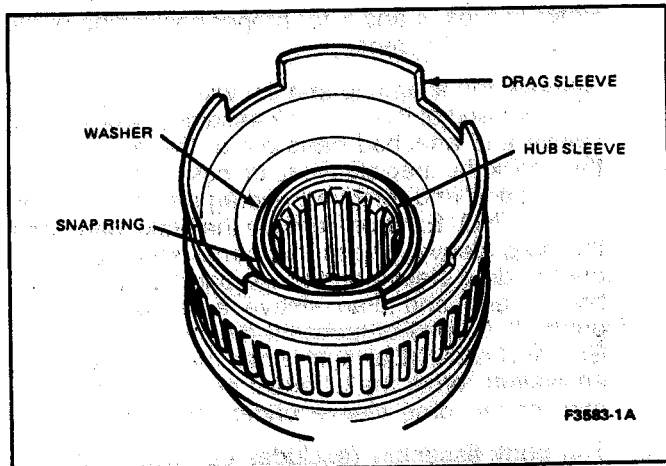
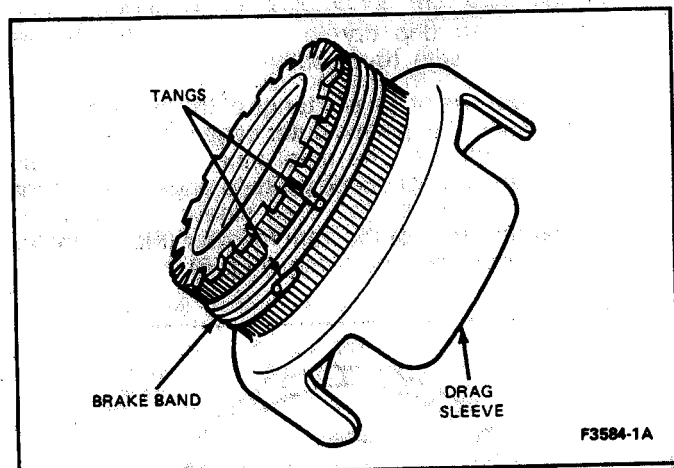
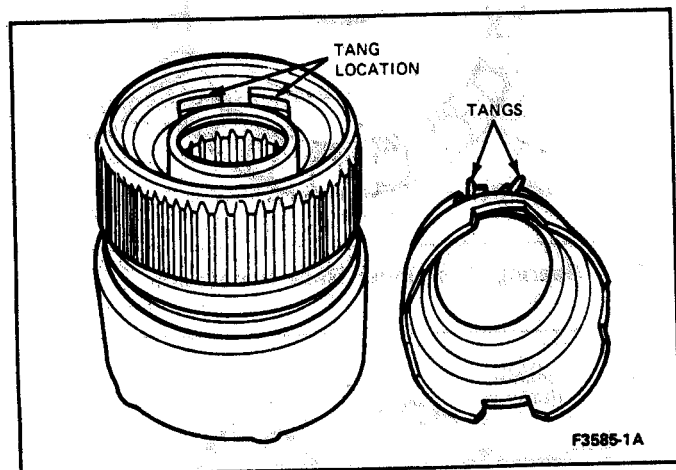

FIG. 6 Washer and Snap Ring
FIG. 7 Drag Sleeve and Brake Band
FIG. 8 Brake Band and Drag Sleeve Assembly to Body Assembly Installation
11. Remove the snap ring and flat washer (Fig. 6) from the inner end of the hub lock assembly. Pull the hub sleeve and attached parts out of the drag sleeve, then cock the drag sleeve to unlock the tangs of the brake band and remove the drag sleeve assembly (Fig. 7). (NOTE: Never remove the brake band from the drag sleeve). Wash in cleaner solvent and air dry the drag sleeve and brake band. Lubricate the brake band and drag sleeve assembly with 1.5 grams (0.05 oz.) of lubricant meeting specification ESL-M1C93A (Darmex Spec. DX-123-LT.) or equivalent. Work the lubricant over the spring and area of the drag sleeve under the spring.
13. Assemble one of the two tangs of the brake band on each side of the plastic outer cage which is located in the window of the steel inner cage. It will be necessary to cock these parts to engage the tangs in this position as the drag sleeve is positioned against the face of the cam follower (Fig. 8). Install the washer and snap ring (Fig. 6).